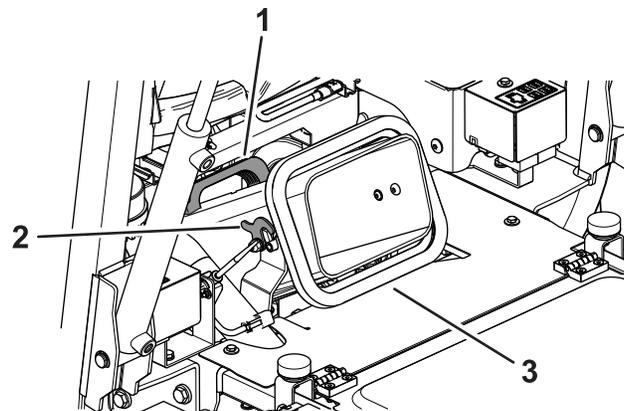

Figure 27
6. Unlatch the grass chute (Figure 27).
7. Using the handle on the chute, remove the chute and clear it and the cutting unit opening (Figure 27).
8. Install the chute and secure it with the latches (Figure 27).